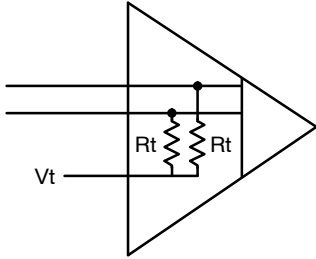

Figure 6. Internal Termination Combo Pin
1. Internal Termination Combo Pin (see Figure 6)
When the Internal Termination Combo pin,  $V_t$ , of Figure 6 is connected to a  $V_{TT}$  sinking power supply ( $V_{CC} - 2.0$  V) and a signal,  $V_{IH}$  to  $V_{IL}$ , is applied, the internal resistors will draw current according to the equations: